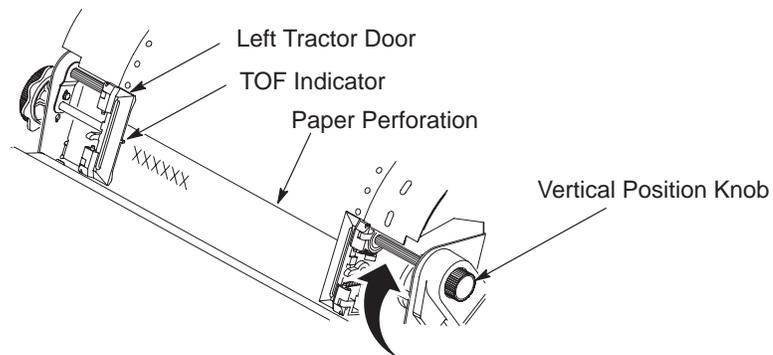

Figure 2–49. TOF Indicator
2. Locate the TOF indicator. It is the small tab located on the left tractor door. See Figure 2–49.